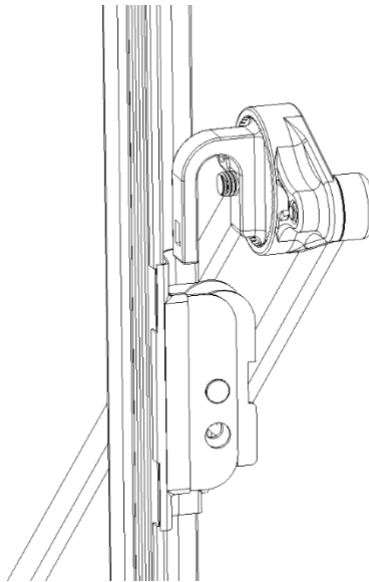

Fig. 4.
12. Install wiper blade onto wiper arm (see figure 4).